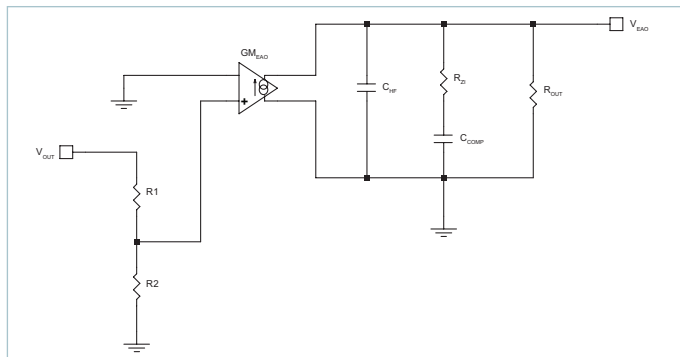
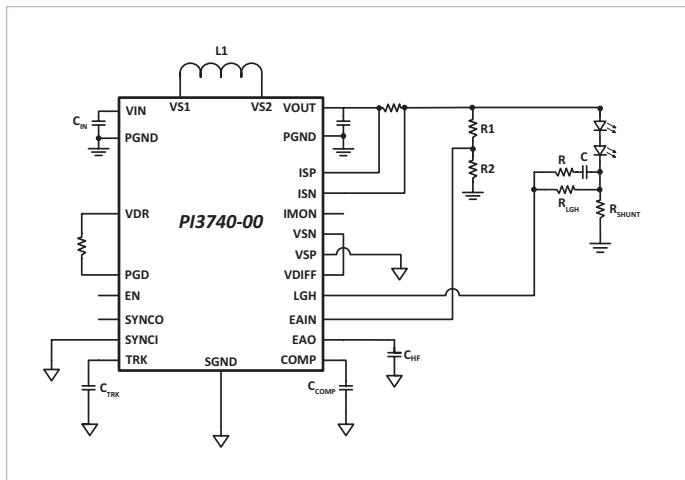

Figure 58 — PI3740-00 Error Amplifier Model
Figure 59 — Lighting Configuration Using CC Mode
When the amplifier is configured as shown in Figure 58, it forms a Type II amplifier configuration with poles and zeros determined by:
Figure 58 shows a small signal model of the modulator gain when using the application circuit shown in Figure 59 with two high current LED's in series. R_{LED} is the series combination of the AC resistance of each LED. R_{SHUNT} is used to sense the current through the LED string. Equation (16) defines the pole of transfer function.
When regulating in CC mode, it will be necessary to add a compensating zero to avoid loss of phase margin caused by the integrator stage of the LGH amplifier. A simple approach is to add a series R-C in parallel with R_{LGH} as shown in the lighting application diagram in Figure 59. The capacitor will be chosen to work with R_{LGH} to add a zero approximately 1.2kHz before the zero provided by the G_{MLGH} transfer function (the transconductance stage of the LGH amplifier). The external added resistor will form a high frequency pole to roll the gain off at higher frequency. Note that it is very important to understand the AC resistance of the LED's that are being used. Please consult the LED manufacturer for details. For a series string, you should add the individual LED resistances and combine them into one lumped value to simplify the analysis.